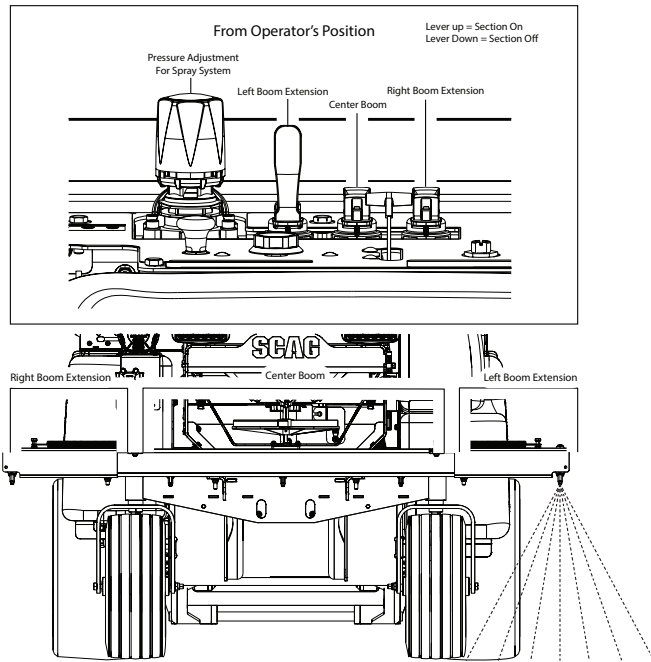

Figure 4-9. Sprayer Boom Selection Levers
3. Turn on the boom sections that are going to be used. See Figure 4-9.
1. Before engaging the spray wand, turn the boom selection levers to the off position. See Figure 4-9.